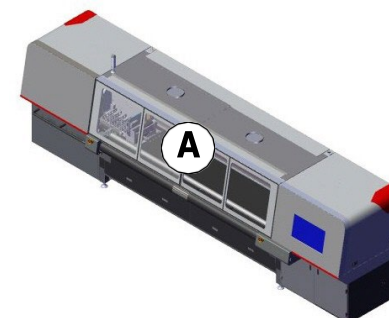

Figure 6-6 Printer Front View
1. Open the printer front door, Figure 6-6 location (A).